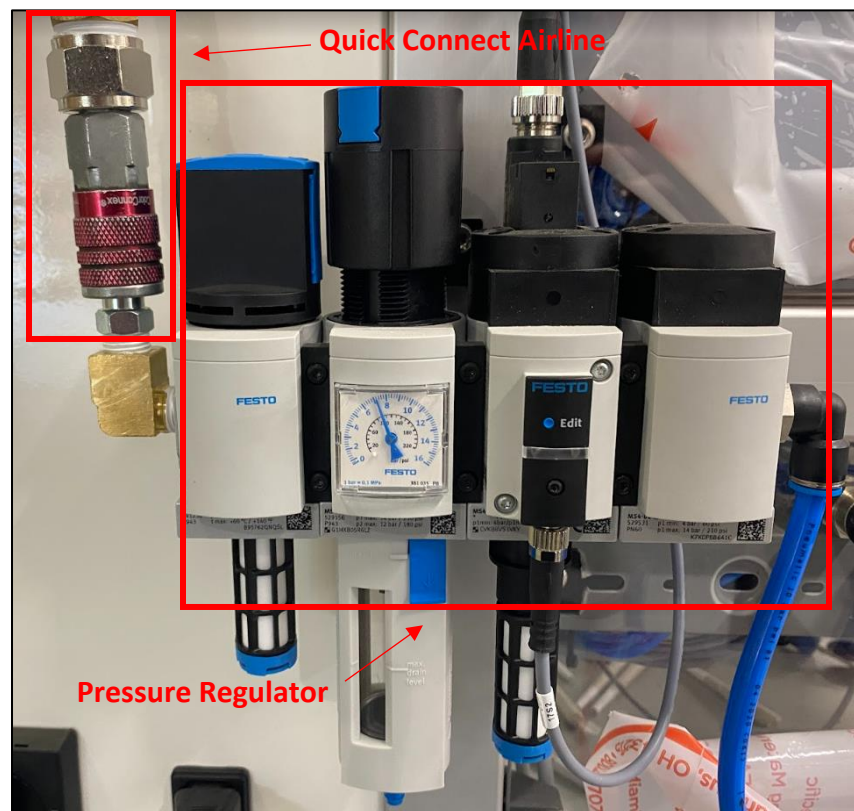

Figure 26: Compressed air inlet and pressure regulator system
- Connect the compressed air line into pressure regulator inlet located on the back of the unit. See Figure 26 for a visual on where to plug the compressed airline into. The connection is a 1/4" quick-connect.